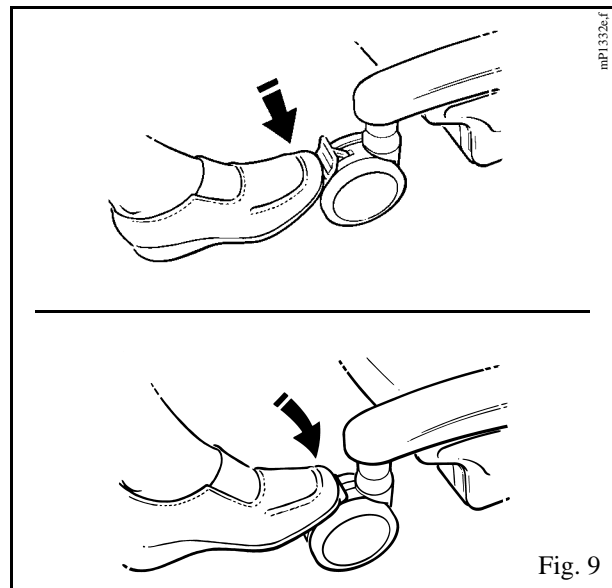

Fig. 9
Chassis castor Brakes:- (See fig 9) The chassis rear castors have brakes which can be foot operated if required, for example, when leaving the patient unattended, or to keep the *Opera* in position.
- Note:** The chassis rear castors have brakes which can be foot operated when required (see fig.9). Do not apply the castor brakes at this stage, as the position of the patient will adjust to his/her own centre of gravity when lifted.